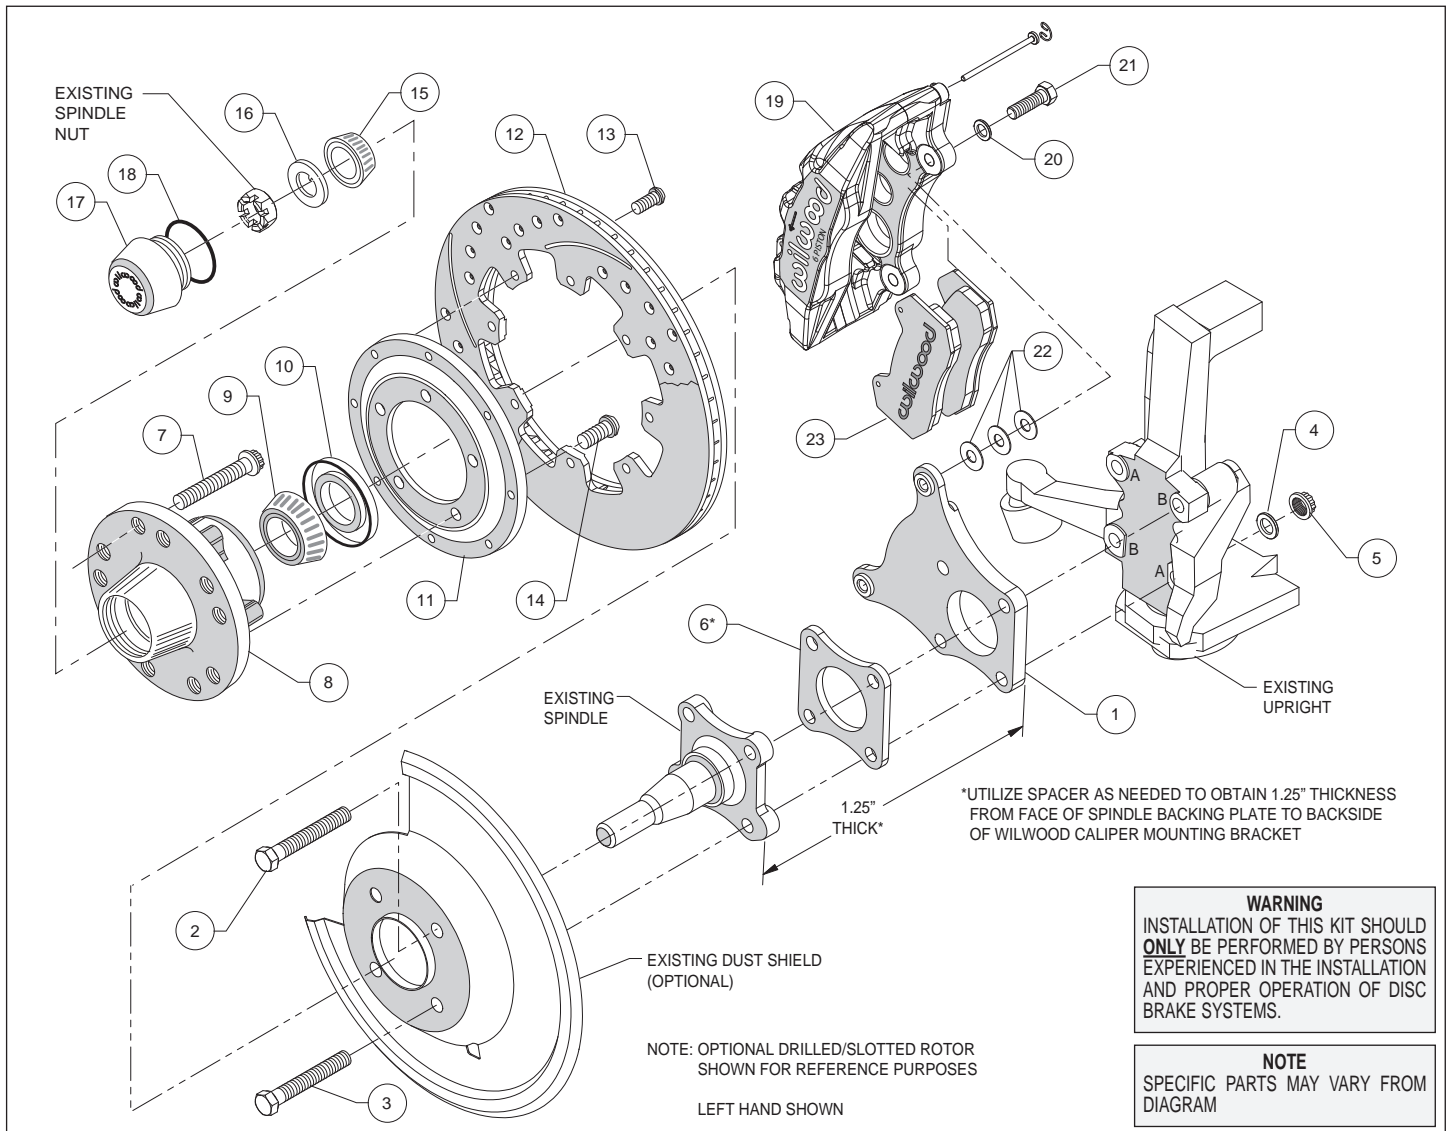
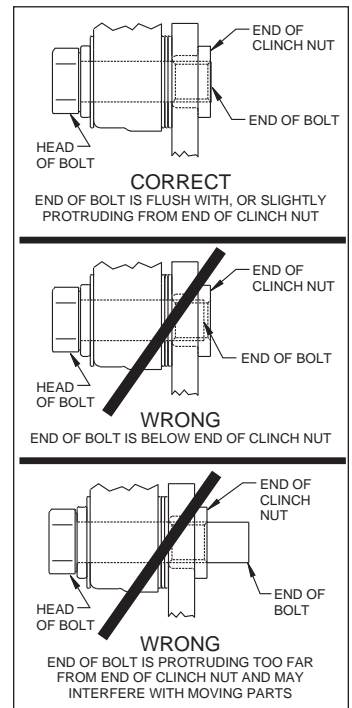

Figure 1. Typical Installation Configuration
Figure 3. Clinch Nut Engagement Diagram
Assembly Instructions (numbers in parenthesis refer to the parts list, on the preceding page and Figure 1): **CAUTION:** *All mounting bolts must fully engage clinch nuts.* Be sure to check that all bolts are either flush or protruding through flanged side of clinch nut after shimming, Figure 3.
- Align caliper mounting bracket (1) with the corresponding holes, between the upright and the spindle. Attach using bolts (2 and 3), washers (4), and locknuts (5) as shown in Figure 1 and Photo 1. Bolt (2) goes into holes on the upright designed with a "B" and bolt (3) goes into the "A" marked holes, Figure 1. Measure the thickness of the spindle and mounting bracket, Figure 1. If approximately 1.00", place spacer (6) between the spindle and mounting bracket to achieve the correct thickness. Temporarily tighten the mounting bolts. Ensure that the flanged heads of the clinch nuts in the bracket are facing outboard, Photo 1. **NOTE:** *The bracket must fit squarely against the mounting bosses on the upright.* Inspect for interference from casting irregularities, machining ridges, burrs, etc. Remove bolts one at a time, apply red *Loctite*® 271 to threads and torque to 47 ft-lbs.
- Install wheel studs (7) into the hub (8), Photo 2. Torque to 77 ft-lb. **NOTE:** *There are two five lug patterns in the hub (5 x 4.50 and 5 x 4.75).* Ensure the correct hub stud pattern is being used to fit the wheel application.
- Pack the large inner bearing cone (9) with high temperature disc brake bearing grease (available from your local auto parts store) and install into the backside of the hub (8), Photo 3.
- Install the grease seal (10) by pressing into the backside of the hub (8), flush with the end of the hub, Photo 3.
- Orient the rotor (12) and the rotor adapter (11) as shown in Figure 1 and Photo 4. Attach the rotor to the adapter using bolts (13). Using an alternating sequence, apply red *Loctite*® 271 to the threads, and torque to 25 ft-lb.
- Mount the adapter/rotor assembly (11/12) to the hub (8) using bolts (14), as shown in Figure 1 and Photo 5. Using an alternating sequence, apply red *Loctite*® 271 to the threads, and torque to 55 ft-lb.
- NOTE:** Please reference the caution statement at the beginning of the assembly instructions. This kit contains distinct right and left hand calipers that must be mounted in a specific direction, as described below. Mount the caliper (19) onto the caliper mounting bracket (1) using bolts (21) and washers (20), as shown in Figure 1. Initially place three .035" thick shims (22) on each bolt between the caliper and the bracket, Photo 8. Ensure that the caliper is mounted so the largest pistons are at the rotor exit end of the caliper, in relation to the direction of rotor rotation. Temporarily tighten the mounting bolts and view the rotor (12) through the top opening of the caliper. The rotor should be centered in the caliper, Photo 9. If not, adjust by adding or subtracting shims between the bracket and the caliper. Always use the same amount of shims on each of the two mounting bolts. **NOTE:** The end of each bolt must be flush with or slightly protruding from the head of the clinch nut, as shown in Figure 3. If necessary place spare shims between washer (20) and caliper mounting ear to achieve the proper clinch nut engagement. Once the caliper alignment and clinch nut engagement are correct, remove the caliper bolts and caliper.
- Remove the two pad retaining pins from the caliper (19) by carefully popping out the pin retaining clips and sliding out the pins. Insert the brake pads (23) into the caliper from the bottom, Figure 1 and Photo 10, with the friction material facing the rotor. Secure the brake pads in place with the pad retaining pins and clips, Photo 11. Reinstall the caliper onto the caliper mounting bracket. Apply red *Loctite*® 271 to bolt threads (11), and torque to 40 ft-lb.